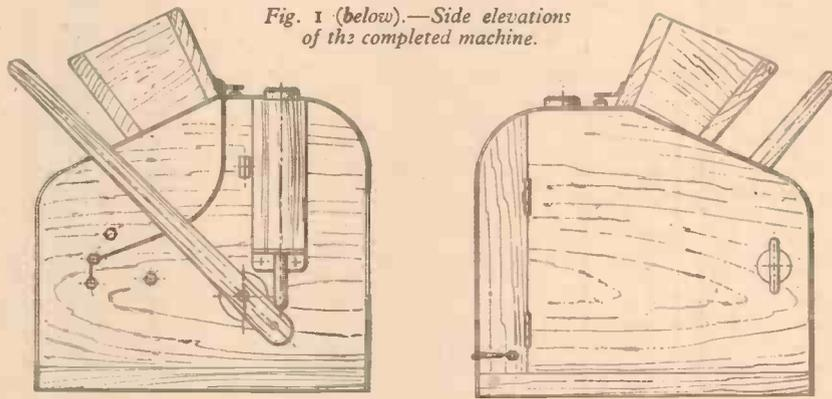

Fig. 1 (below).—Side elevations of the completed machine.
**T**HE general arrangement of the machine is shown in Figs. 1 and 2. By pressing the handle downwards against the resistance of the spring plunger unit, the pictures or diagrams are made to flip rapidly across the line of vision, through the glass panel contained within the cowl. Each picture or diagram is retained in the viewing position for a fraction of a second by the fixed horizontal bar protruding from the side. The pictures are illuminated by a 2.5 volt bulb located at the top of the housing. The light is operated automatically by a swinging arm contact, and is synchronised to provide illumination at the correct period.